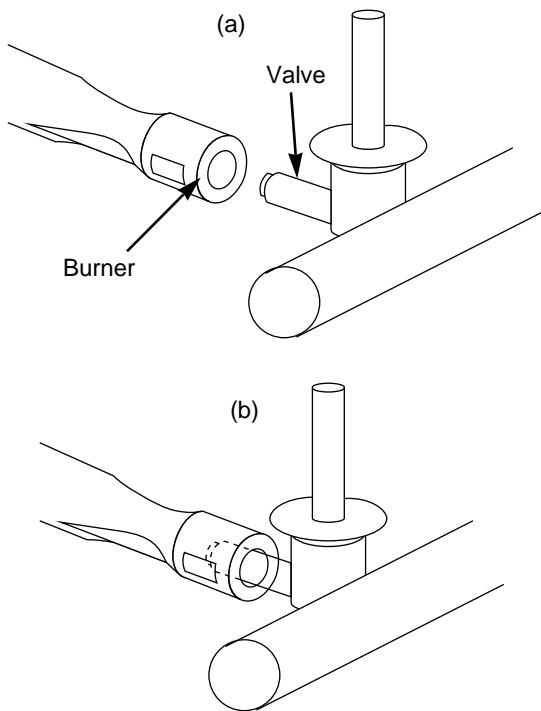

Figure 14
**⚠CAUTION: The burner openings must be positioned properly over the valve orifices. Figure 14 (a).**
Check proper assembly before fastening manifold in place. Figure 14 (b).